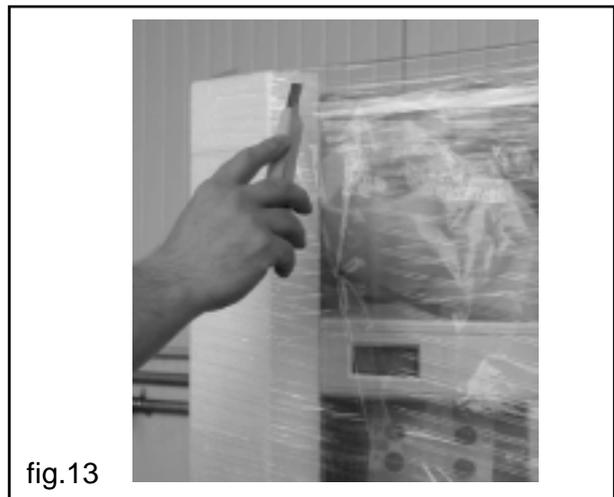

fig.13
- Free the vending machine from the packaging, cutting the protective film in which it is wrapped, along one of the protection angles (fig.13).